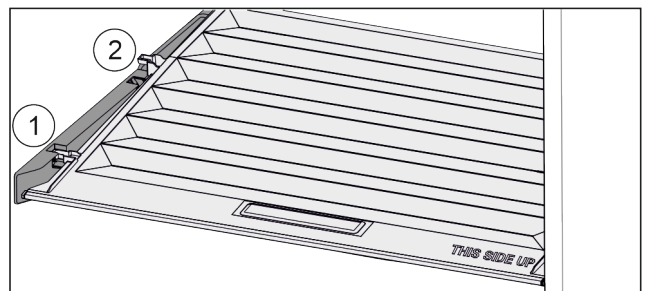

Fig. 25
- ▶ Pull the lid up at the front in the retaining parts to the opening Fig. 25 (1).
- ▶ Lift from the back and pull it up and out Fig. 25 (2).